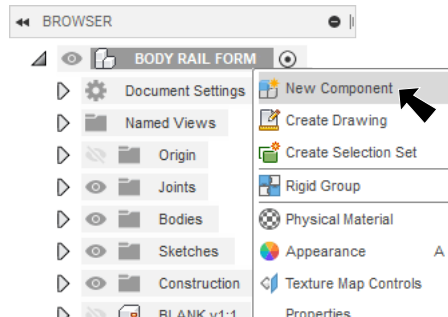

Fig. 1
Step 3. Right click the top node the **BODY RAIL FORM** Assembly in the Browser and select **New Component**, Fig. 1.